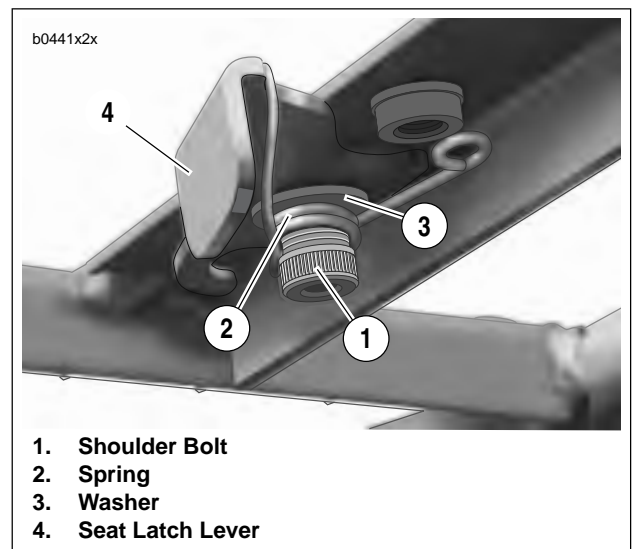

Figure 2-114. Installing Seat Release
2. See Figure 2-114. Place washer (3) and spring (2) under seat latch lever (4).
3. Hook edge of spring (2) over seat latch lever (4). Small loop of spring will rest against frame as shown.
4. Align seat release assembly under tail section. Secure with shoulder bolt (1). Shoulder bolt must not compress washer or seat latch lever.